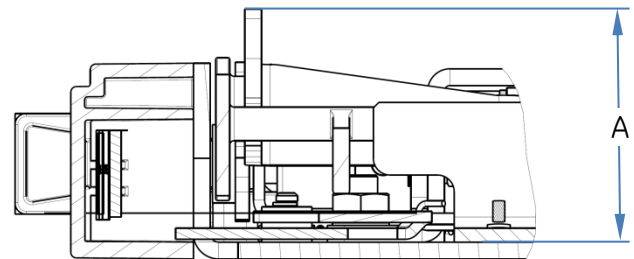

Figure 17
- Dimension "A" (measured, as shown in figure 17) should be greater than 42,5mm.